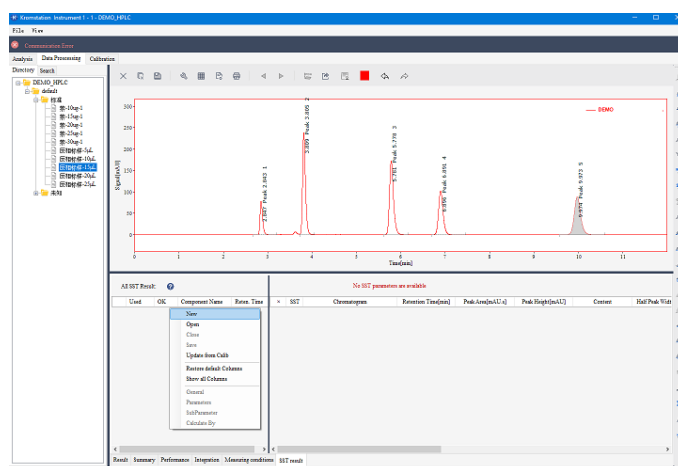

Figure 6-17 Create a new SST result file
- 3) Click on the SST page, in the SST drop-down menu, select "New" to create an SST result file, as shown in Figure 6-17.